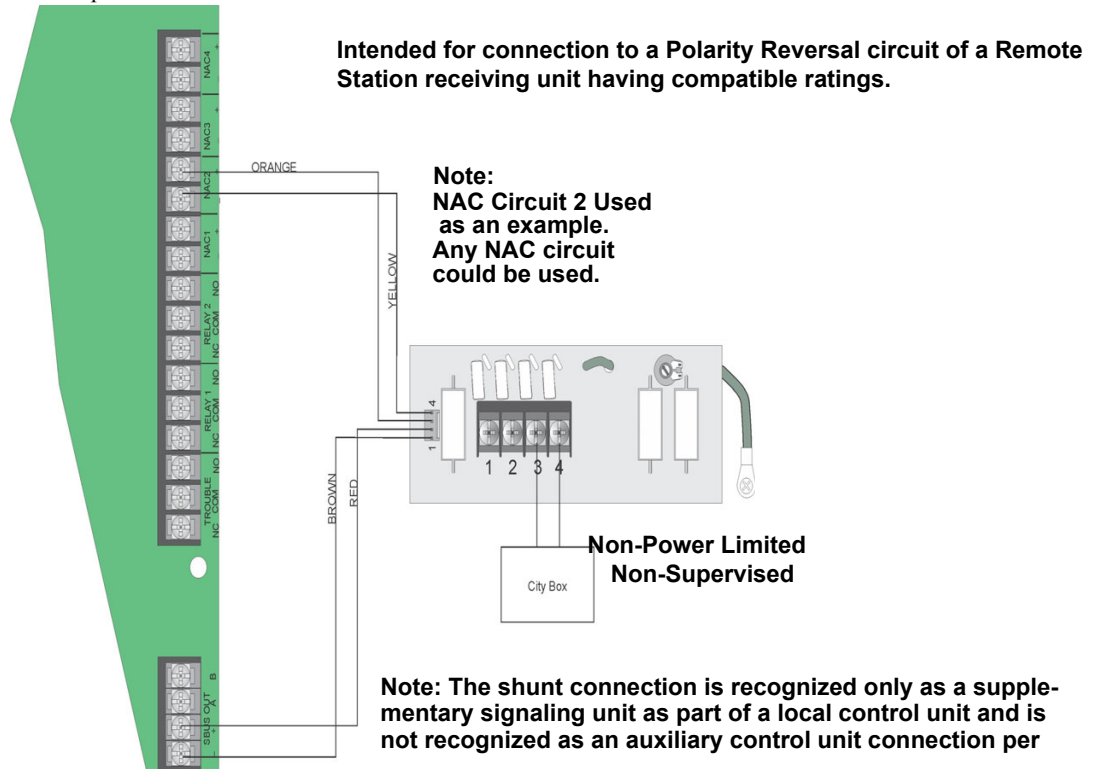

Figure 4.47 City Box Connection
2. Wire the 5220 to the control panel as shown in Figure 4.47. This drawing also shows how to connect the city box coil to terminals 3 and 4 on the 5220. Do not install an EOL resistor in the terminals of the NAC circuit used for this application.